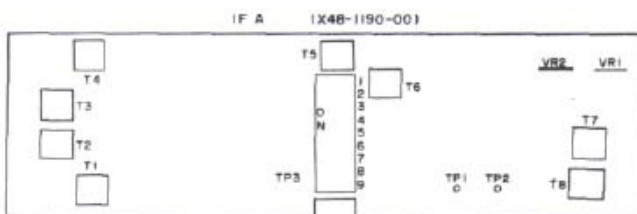

Fig. 29
2. Connect the frequency counter to the IF-A Ass'y CA1 or TP1 terminal, and adjust frequencies per Fig. 29.